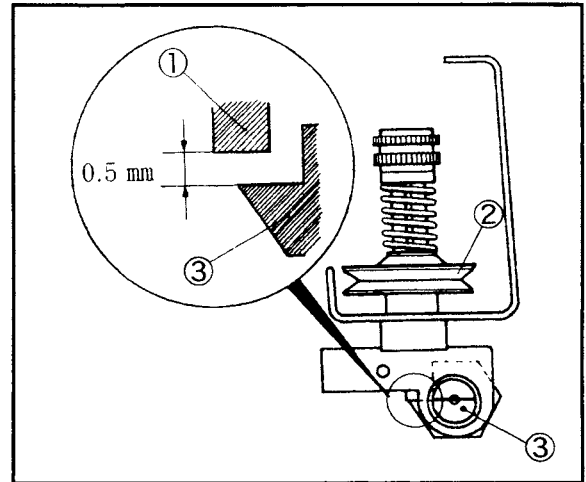

Fig. 12
As standard, make the clearance between the tension release pins ① and the tension release shaft ③ to 0.5 mm when six tension release pins ① are pushed up slightly and the upper thread tension disc ② starts leaving from the lower thread tension disc without pressing the presser foot pedal. (Fig. 12)
當踩下踏板時，六個凸線器①會向上推，然後夾線片②開始離開下夾線片。(Fig. 12)
- (2) Turn the tension release shaft③with a screwdriver. (Fig. 12)
- (2) 翻轉凸線器座③用螺絲起子。(Fig. 12)